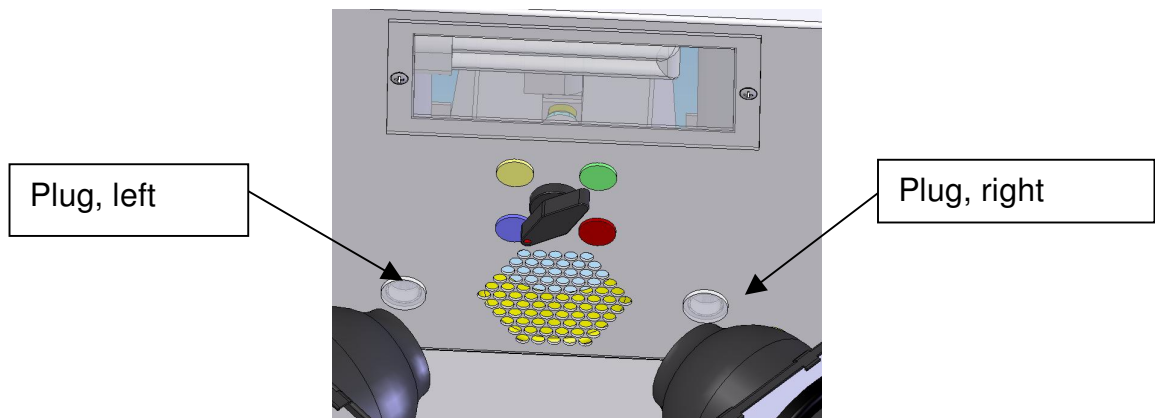

Figure 1
- In the work room remove the plug for the lead through of the steel stylus: left for the left-hand add-on tank (yellow); right for the right-hand add-on tank (green). **Figure 1**